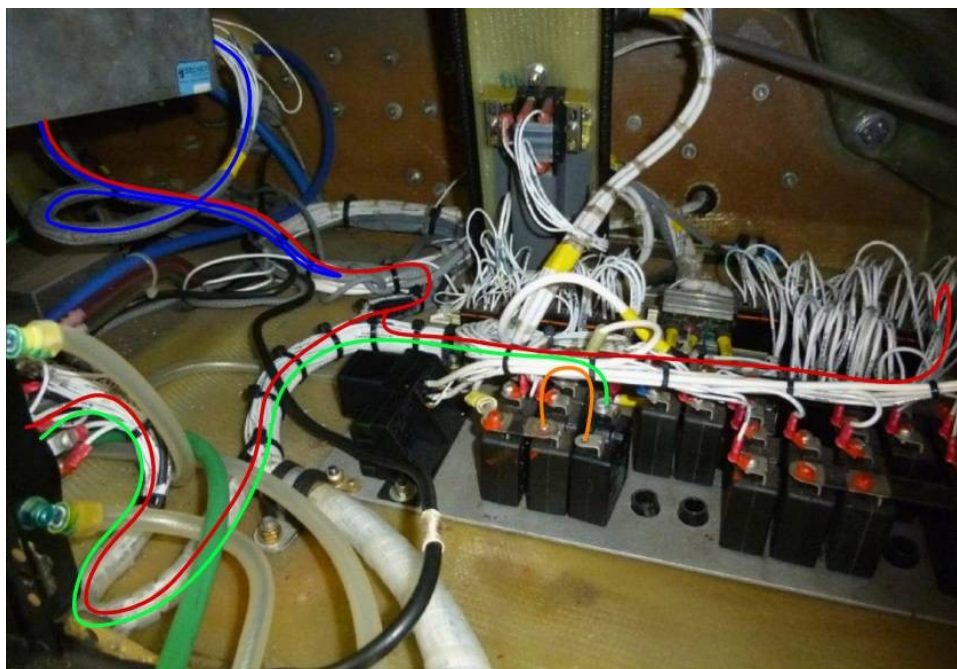
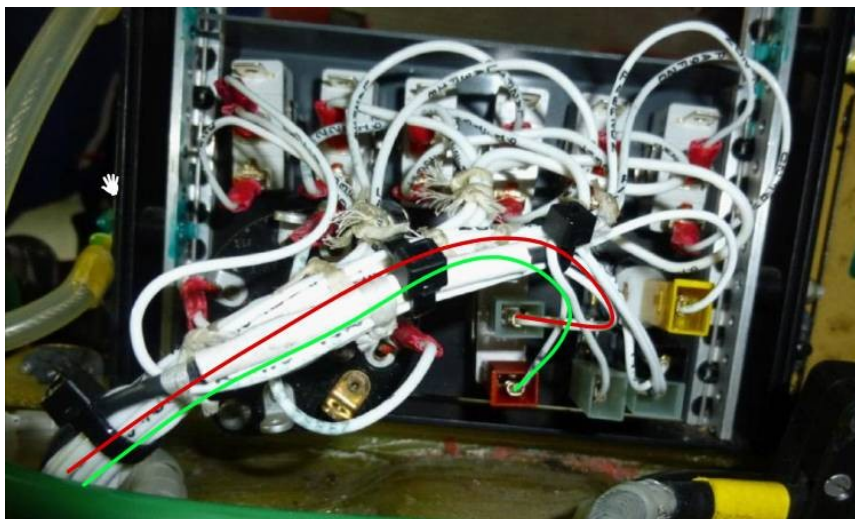

Figure 5 Cable Routing inside instrument compartment
Figure 6 Connection at back side of 2WN switch
- 1.8.13 Connect the new circuit breaker to the main bus with the jumper cable 109B-9530 (Item 4 of List 2.2). Attach it to the existing cable loom with a cable tie, refer to Figure 3 and Figure 5 (orange line).
- 1.8.16 Connect the wire WN 01E22-P (cable loom FLARM 2, 109B-9520, item 6 of List 2.2) to the other connector of FLARM CB and put it along the original loom to the FLARM switch (2WN) at the switch plate, refer to Figure 5 (green line). Safety the screw at the CB with inspection lacquer.
- 1.8.17 Cut the wire WN 01E22-P to correct length and strip the insulation of the wire. Crimp the contact AMP 160773-6 (positive lock receptacle, item 7 of List 2.2) onto the wire. Use the hand crimping tool AMP 354940-1 with Die Set AMP 90575-2 or equivalent. Install an insulator AMP 154719-2 (positive lock receptacle insulator, red, item 8 of List 2.2) to the crimped contact. Connect cable to the bottom connector of the FLARM switch (2WN) (refer to Figure 6 – green line).
- 1.8.24 Crimp the two wires together into one contact AMP 160773-6 (positive lock receptacle, Item 7 of List 2.2). Use the hand crimping tool AMP 354940-1 with Die Set AMP 90575-2 or equivalent. Install an insulator AMP 154719-1 (positive lock receptacle insulator, natural, Item 15 of List 2.2) to the crimped contact. Connect the cable to the top connector of the FLARM switch (2WN) (refer to Figure 5 and Figure 6 – red lines).
- 1.8.25 Put the wires WN 02E22N-P and WN 03E22N-P of cable loom FLARM 1 along the original cables to ground module VV1, Terminal 5. Cut them to length and strip the insulation of the wires (Figure 5 – right red line).
- 1.8.28 Put the wire WN 04E22-S of cable loom FLARM 1 inside the grey braided sleeving to the BECKER AR3201 transceiver (Figure 5 – blue line).